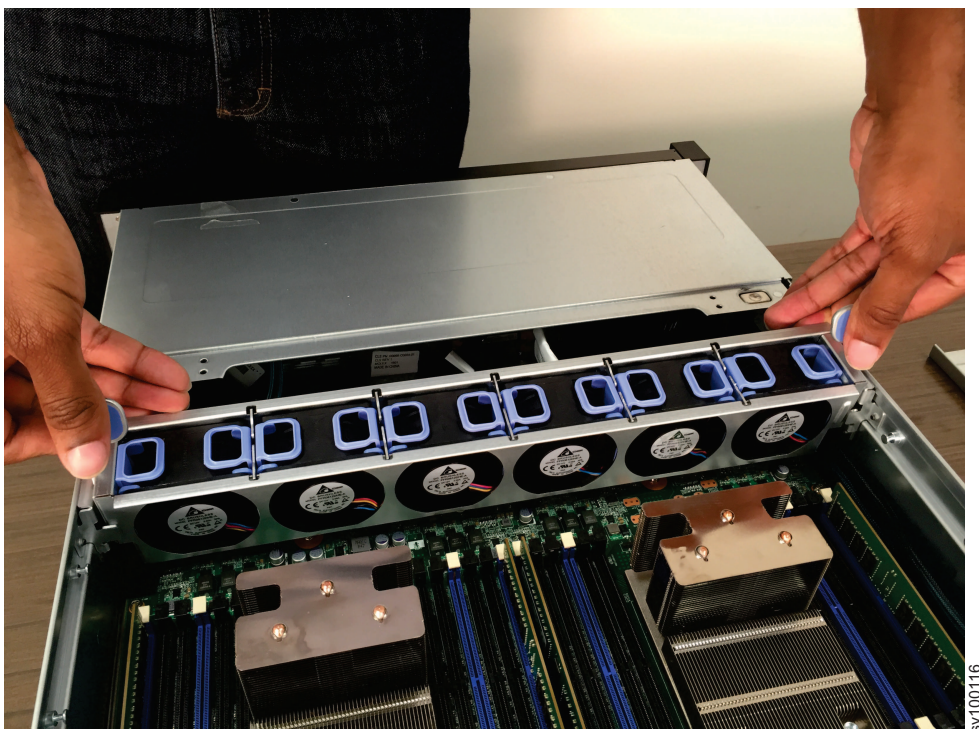

Figure 182. Replacing the fan bracket
1. Lower the fan bracket into the chassis, as shown in Figure 182 on page 223.